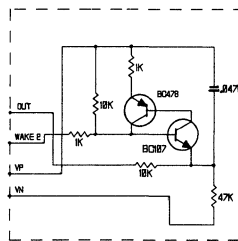

Fig.19 SAW TOOTH OSC
- Option 1 (Fig.19) Saw tooth generation independent of radio